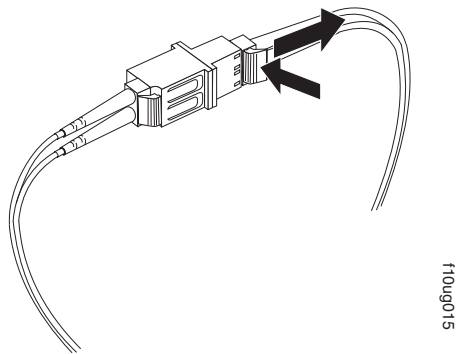

Figure 49. Removing the LC-LC fibre-channel cable from an LC-SC fibre-channel cable adapter
2. Carefully pull on the connector to remove it. Make sure you grasp the connector and not the cable when removing the LC-LC cable from the LC-SC cable adapter as shown in Figure 49.